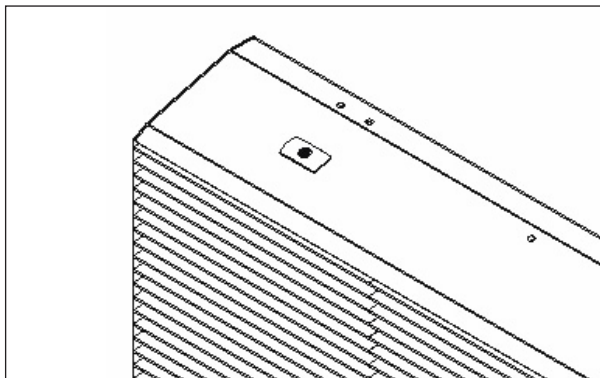

**Figure 7:** Right Column of Modules Removed
- Remove the right column of modules before latching the sections together. Removing just the modules is recommended when installing from the front of the display, and removing the entire module pan is recommended when installing from the top of the display. Removal may be easier before flying the section into place. Refer to **Figure 7**.